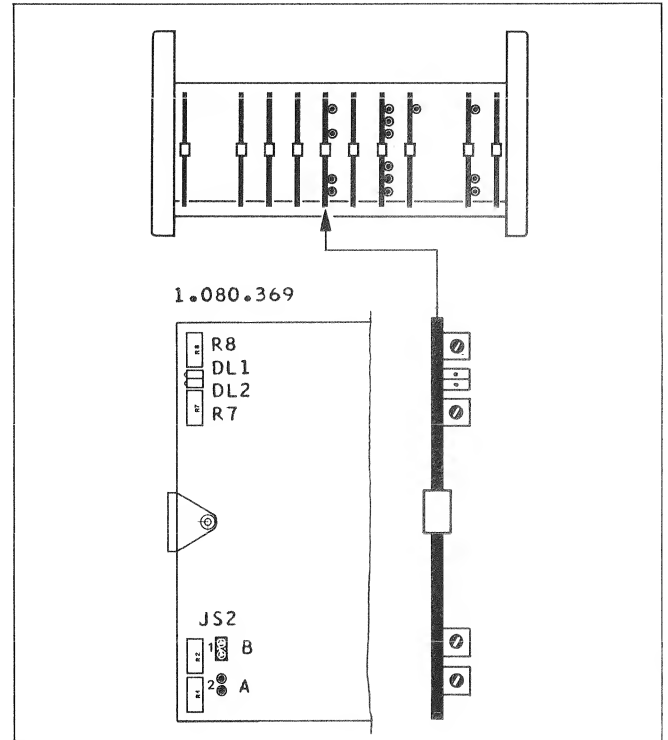

Fig.4.5
-> Fig.4.5
Reset jumper JS2 to position "A": (disables reverse PLAY mode). -> Fig.4.5